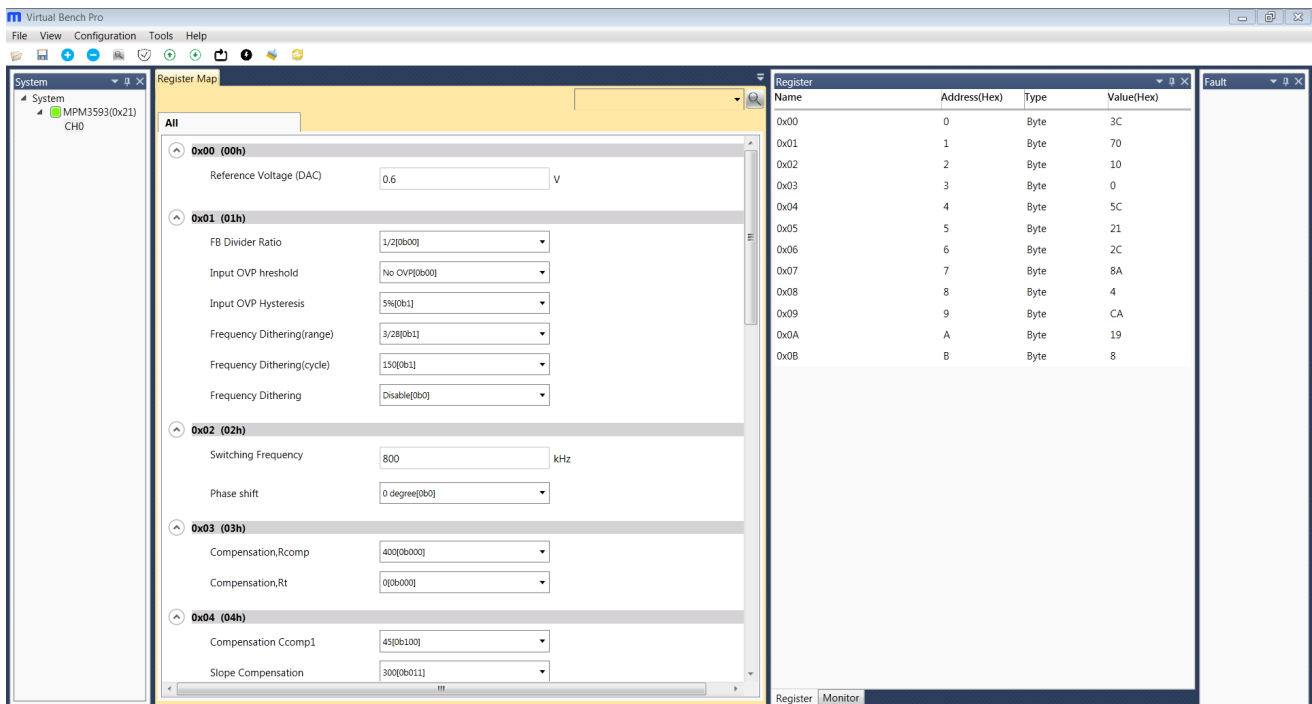

Figure7: Interface of the GUI
9. Click the “+” button, then select the MPM3593, and click “Yes”, you will see the interface like Figure7, If the light of upper left corner is blue, the communication is successful, If not, you must check the driver and the wires.
10. Then you can customize the parameters as the Right of the Figure7 listed, then you can click the “write to chip” button for debugging, or the “write to MTP” button for permanent use.